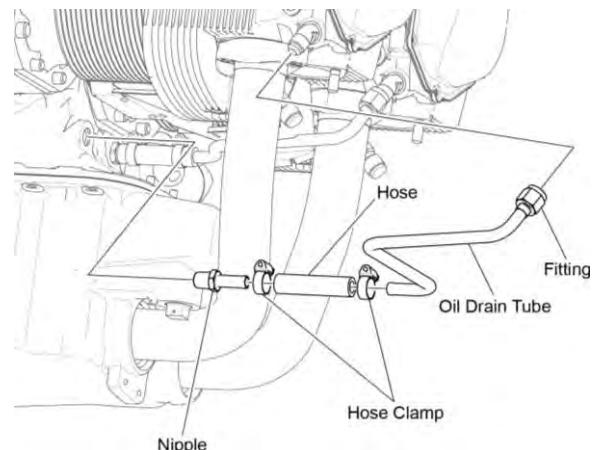

Figure 2
- (1) Remove and discard the hose clamps (Figure 2).
- (2) Disconnect the oil drain tube fitting from the engine cylinder.
- (3) Remove and discard the hose (Figure 2).
- (4) Remove the oil drain tube from the cylinder.
- (5) Examine the oil drain tube for cracks or damage.
- (6) Replace a cracked or damaged oil drain tube.